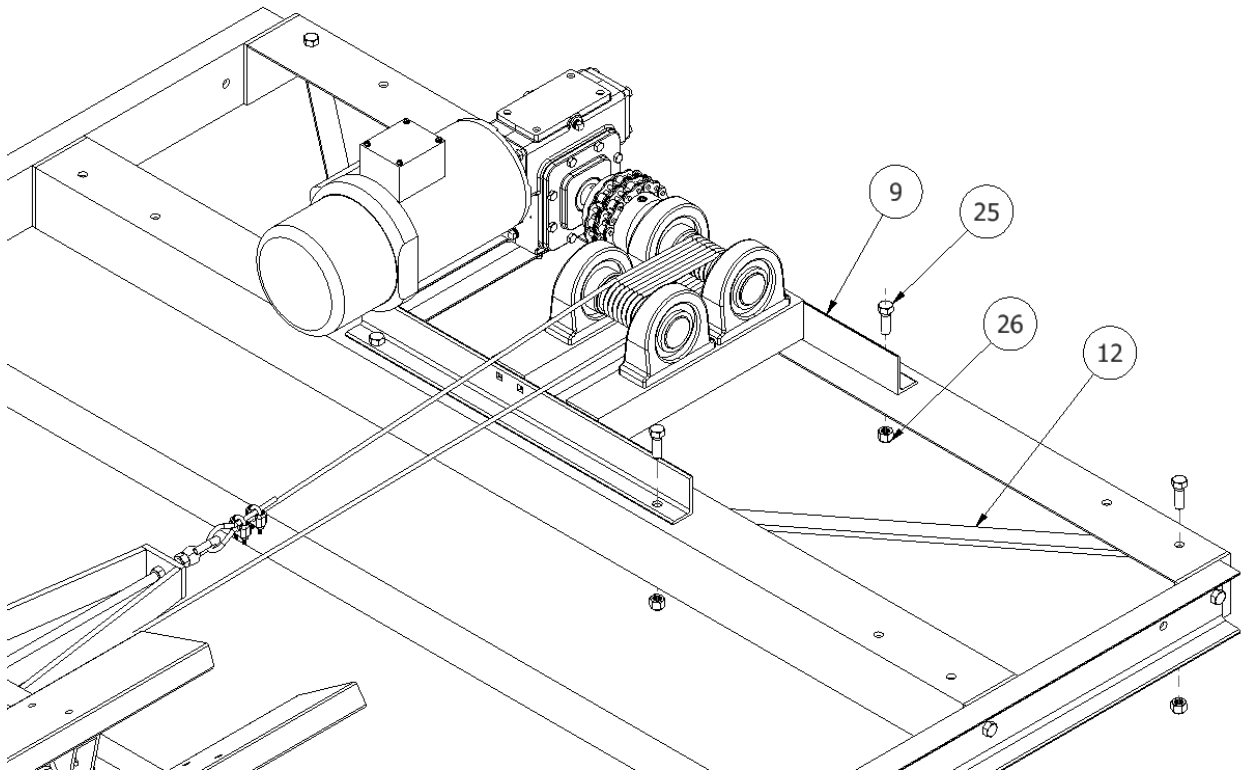

Figure 3-1. Mounting Push / Pull Drive Unit
1. **Refer to Figure 3-1 or 3-2.** Mount the drive unit onto the rear motor cross tie using fasteners (A, & C) supplied. Mount drive front to cross-tie using fasteners securing diagonal braces (railway track hardware bag). Ensure drive unit is installed with the six groove drum (13) furthest away from the water.
2. Remove the red pipe plug from reducer (4). Install the vent plug supplied with unit.